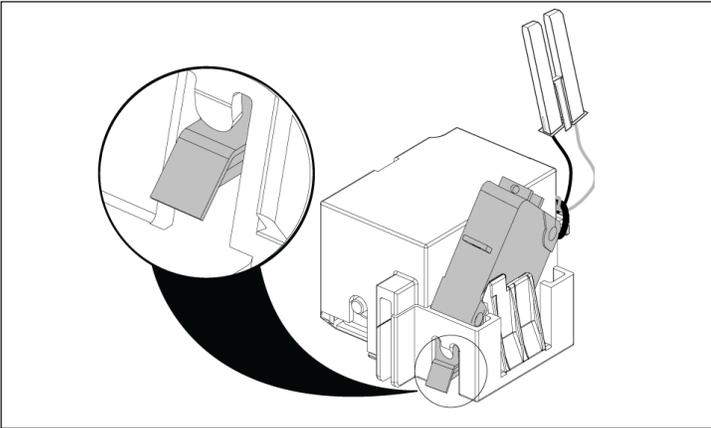

Figure 9. Step 2.
**Step 2:** Position the spring release as shown. Tilt the latch check switch back to properly position it for final installation. The LCS is shown without leads soldered to appropriate terminals for clarity purposes (Figure 9).